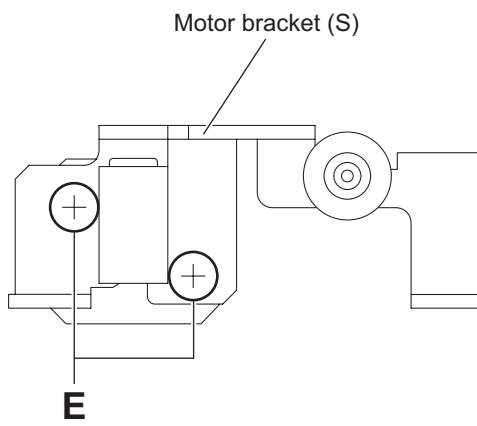

Fig.9
- (6) Remove the two screws **E** attaching the motor and remove the motor from the motor bracket (S). (See Fig.9.)